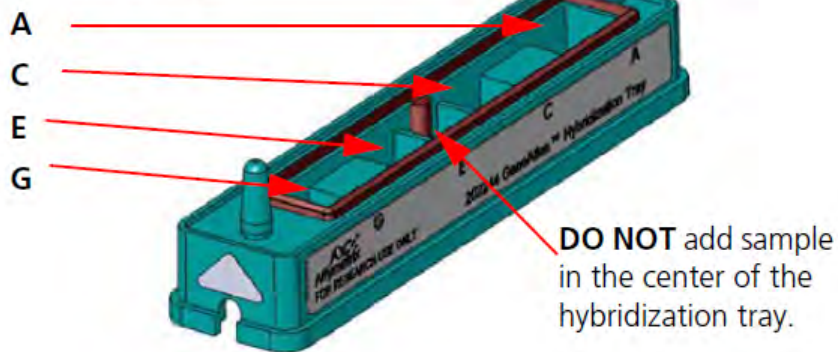

Figure 6 Location of sample wells (A, C, E, and G) on the hybridization tray.
- a. Gently pipet 120 μ L of 1X Pre-Hybridization Mix into the appropriate wells of the hybridization tray. See Figure 6. Avoid generating air bubbles.
CAUTION! The center of the hybridization tray is not a sample well. Do not add anything to this area (Figure 6).
See Figure 6.